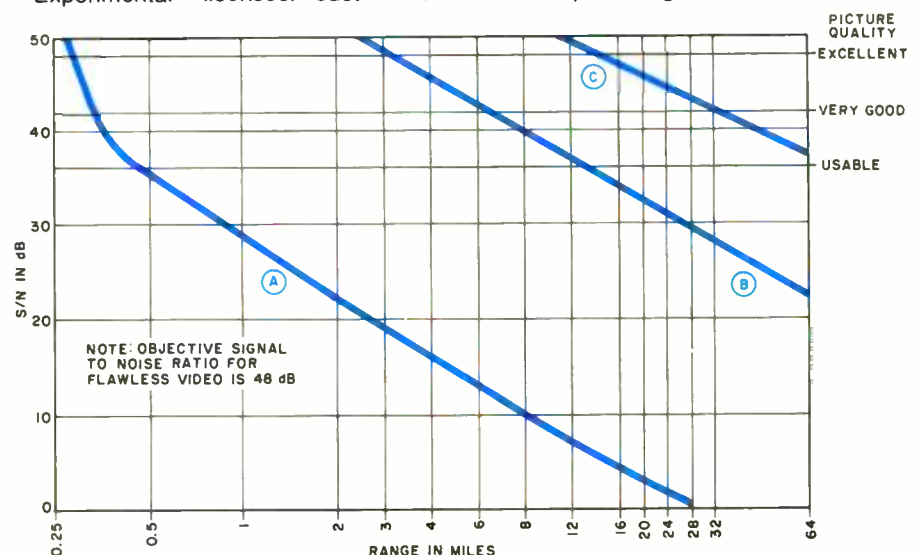

Fig. 11. Range plot for horn (A), 2-foot parabolic (B) and 4-foot parabolic (C) dish antennas when used with the Mini-Wave microwave communications system.
The curves in Fig. 11 show the line-of-sight ranges for Mini-Wave transmitters and receivers employing 17-dB horns (A), 32-dB parabolic dishes (B), and 38-dB dishes (C), plotted against signal-to-noise ratio. Intermediate ranges will result if different antennas are used at the transmitter and receiver. If the goal of flawless video reception is established, an S/N ratio of 48 dB is required.
The dramatic increase in signal-to-noise ratio that can be obtained by replacing the stock 17-dB horns supplied by Microwave Associates in its MA-87141-1 package is illustrated by both Fig. 11 and the following example. Assume that 17-dB horn antennas are used at each end of a 2.5-mile (4.0-km) path and that the baseband signal at the receiver's video output has an (unacceptable) signal-to-noise ratio of 20 dB. If one of the horns is replaced with a 2-foot (0.6-m) parabolic dish, system gain increases 15 dB. Thus, the video signal-to-noise ratio becomes 35 dB.
A final word about the range plots shown in Fig. 11. They were derived without any allowance for a *fade margin*. Commercial microwave links are designed to provide more signal at the receiving antenna than is necessary for proper reception. This extra margin of signal strength is included in the link to compensate for equipment aging, increases in path loss which can occur during heavy rain, etc. Typical commercial systems made by Bell Telephone and others provide the receiver with 40 dB more signal than is needed under optimum conditions.